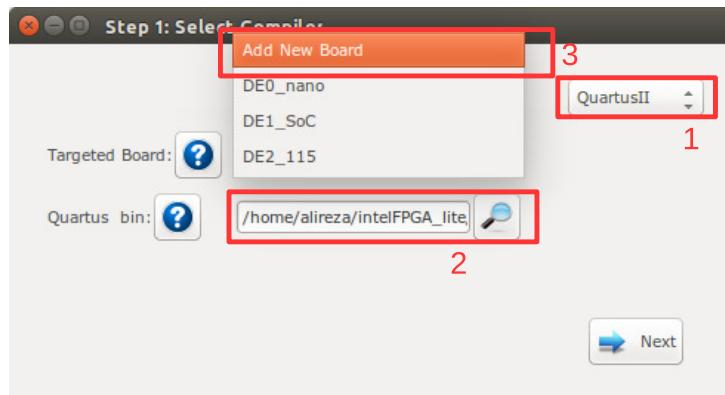

Figure 5.22: Select QuartusII as compiler.
1. Press  **Compile RTL** button in right down corner. This should open "select compiler window" as shown in Figure 5.22. Select QuartusII or Vivado as the compiler tool depend on your FPGA vendor.